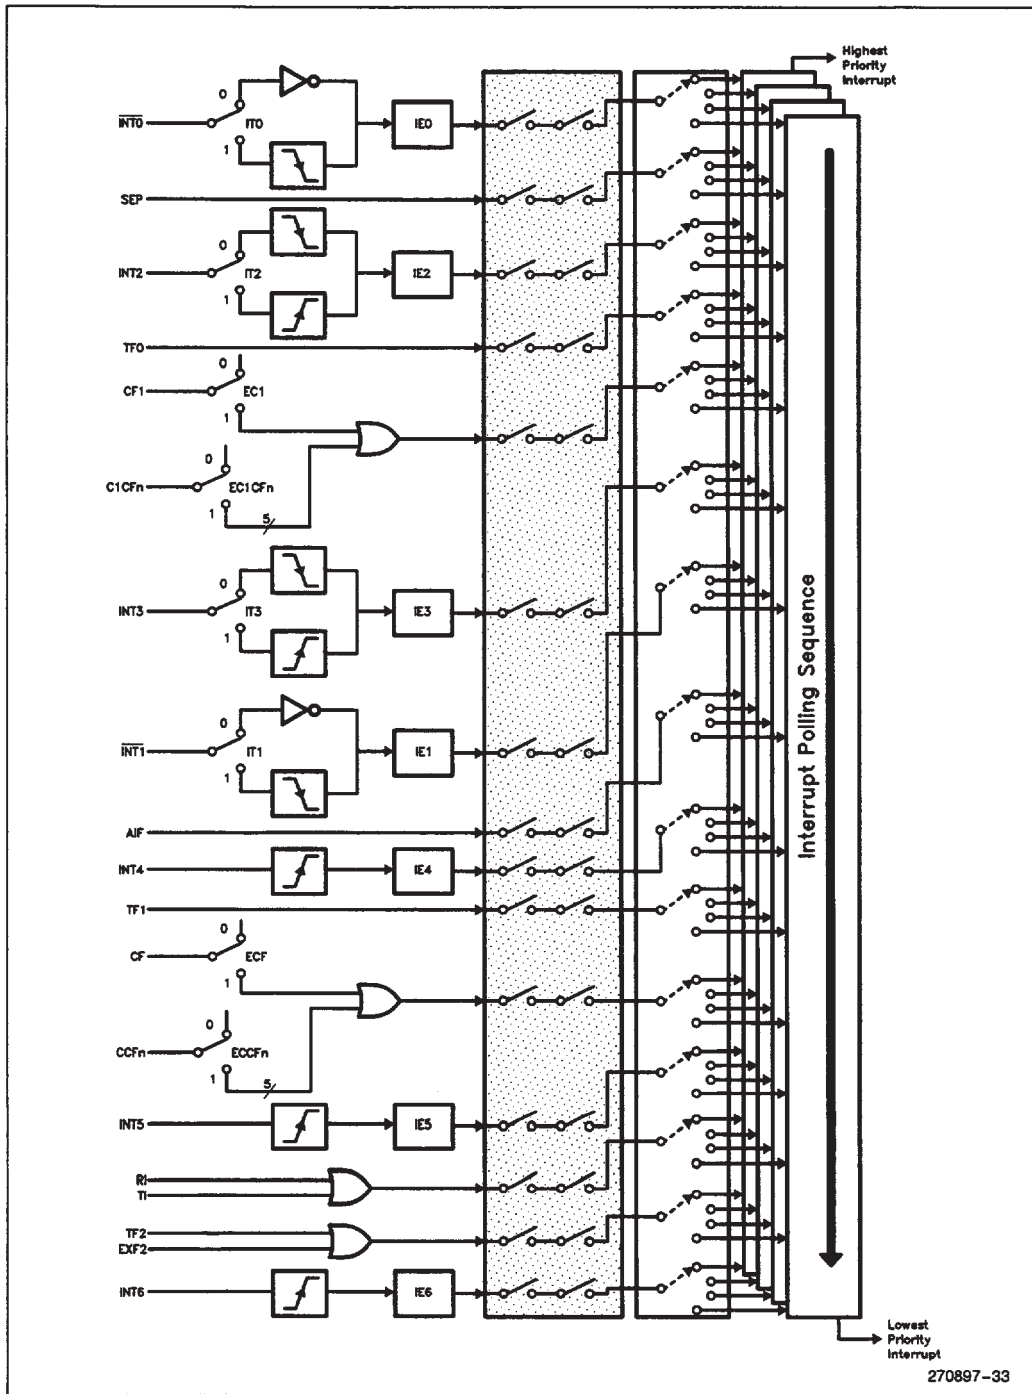

Figure 33. Interrupt Control System
Each of these interrupt sources can be individually enabled or disabled by setting or clearing a bit in the *Interrupt Enable (IE and IEA)* registers as shown in Table 22. Note that IE also contains a global disable bit, EA. If EA is set (1), the interrupts are individually enabled or disabled by their corresponding bits in IE and IEA. If EA is clear (0), all interrupts are disabled. Figure 33 shows the interrupt control system.